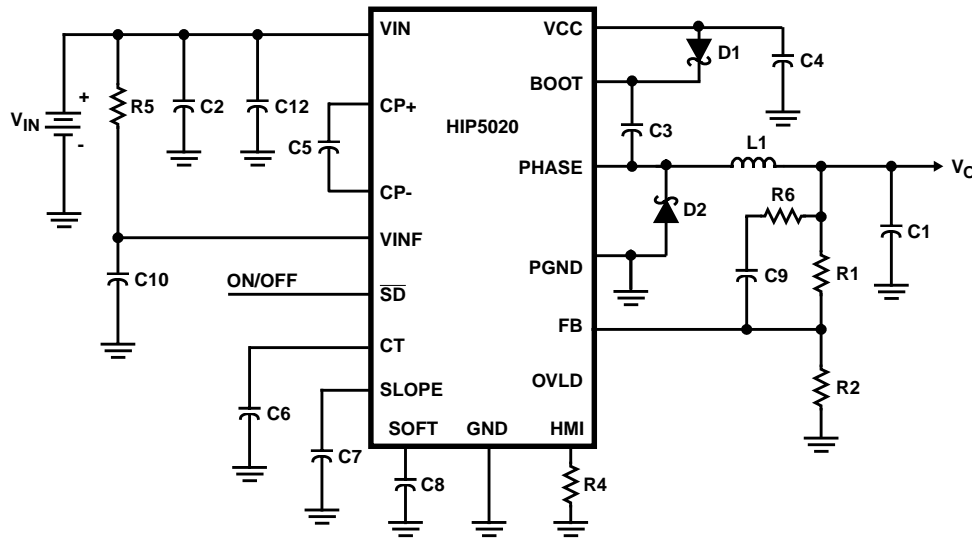

FIGURE 1. EXAMPLE APPLICATION CIRCUIT
**Electrical Specifications**  $V_{IN} = 6.3VDC$ , Components referenced from Figure 1. TYP values at  $T_J = 25^\circ C$  and MIN, MAX limits are for  $T_J$  from 0°C to 125°C; Unless Otherwise Specified
**Electrical Specifications**  $V_{IN} = 6.3\text{VDC}$ , Components referenced from Figure 1. TYP values at  $T_J = 25^\circ\text{C}$  and MIN, MAX limits are for  $T_J$  from  $0^\circ\text{C}$  to  $125^\circ\text{C}$ ; Unless Otherwise Specified **(Continued)**
is optimized for low cost. Figure 1 shows the schematic common to all three converter designs. Table 1 shows the expected performance parameters for each circuit. Table 2 gives the value of each component referenced in Figure 1. Table 3 provides a listing of suggested vendors for the major (or critical) components. Figures 2, 3 and 4 show the efficiency and transient performance of each circuit.
These characteristics are for the circuit shown in Figure 1 with the components given in Tables 2 and 3.
The following description refers to symbols and components in the functional Block Diagram and Figure 1. Figure 1 shows the HIP5020 in a DC/DC converter.
The application circuits shown in Figure 1 and described by Tables 1 and 2 illustrate component trade-off to achieve size, cost and efficiency goals. A design and simulation software program is available that simplifies the small signal component selection (<http://www.semi.harris.com>). This section provides additional guidance for selecting alternate components.